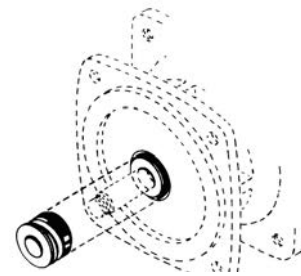

Figure 17
- To install the rotary portion of the mechanical seal, place it over the shaft with the carbon side facing in, and press until it bottoms out against the stationary portion of the mechanical seal (See Fig. 17).